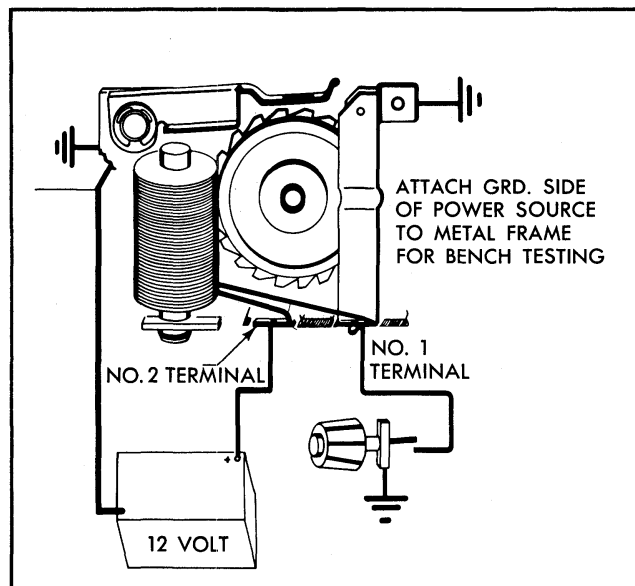

Fig. 11-105 Pump Wiring Circuit
Depressing the dash switch washer button closes the washer pump relay circuit to ground. (Refer to Fig. 11-105).
1. Remove washer pump cover and connect 12 volt power supply to washer pump as shown in Fig. 11-105. Connect jumper wire from terminal No. 1 to ground. Turn ratchet pawl to the position shown in Fig. 11-105. Ratchet pawl should be pulled toward relay pole and engage ratchet teeth. Failure to do as described above indicates an open relay coil.